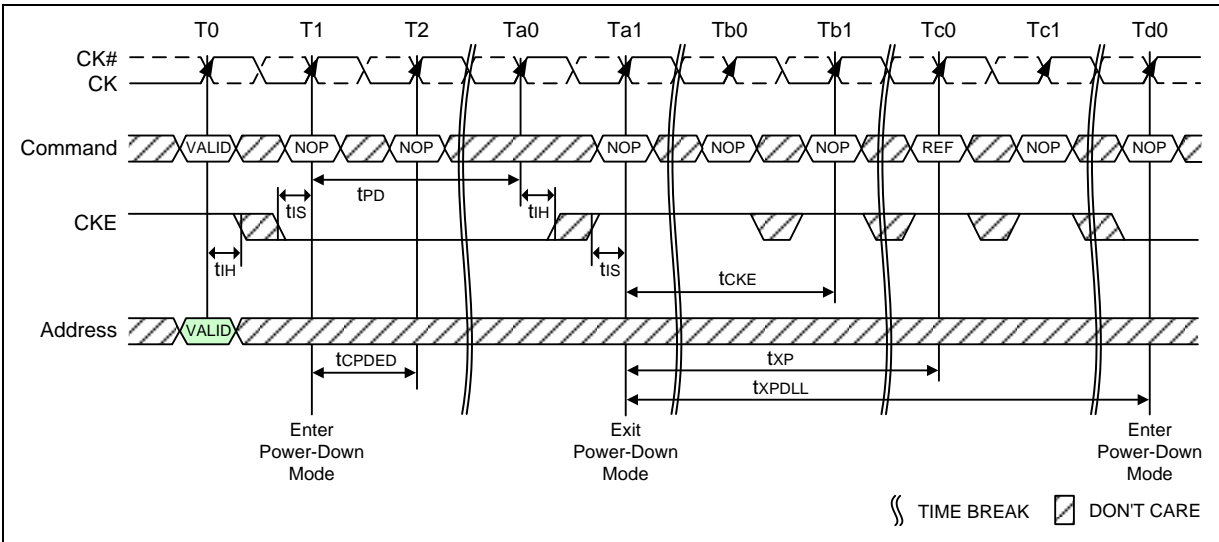

Figure 70 – Power-Down Entry/Exit Clarifications - Case 2
2) txPDLL must be satisfied (referenced to the registration of PD Exit) before the next power-down can be entered. A detailed example of Case 2 is shown in Figure 70.